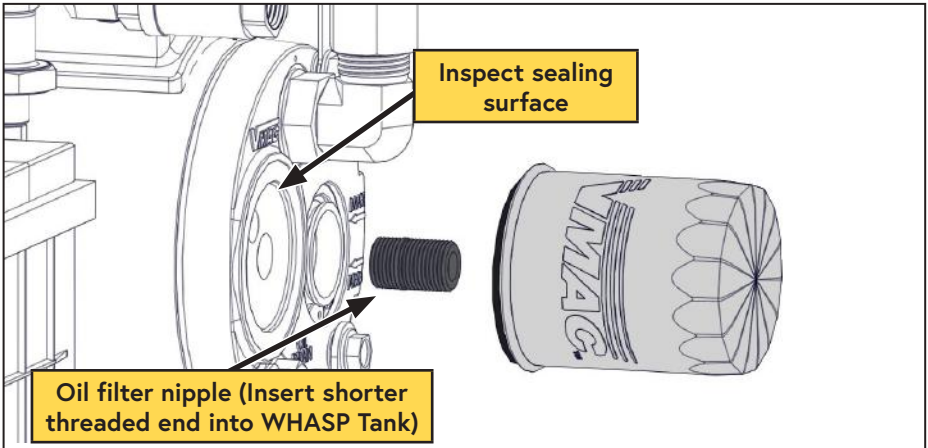

Figure 37 — Compressor oil filter
- ☐ *To reinstall the nipple, thoroughly clean the threads and apply Loctite 242 (blue) to the end with the short threads and replace it in the AOST (Figure 37).
- ☐ Clean the gasket sealing surface on the front of the tank and inspect it for damage. The surface must be free of old gasket material and smooth to ensure a good seal. (Figure 37).